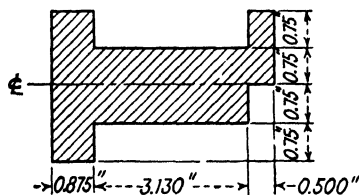

Fig. 301.
21. Find the area of the irregular flat surface shown in Fig. 301.